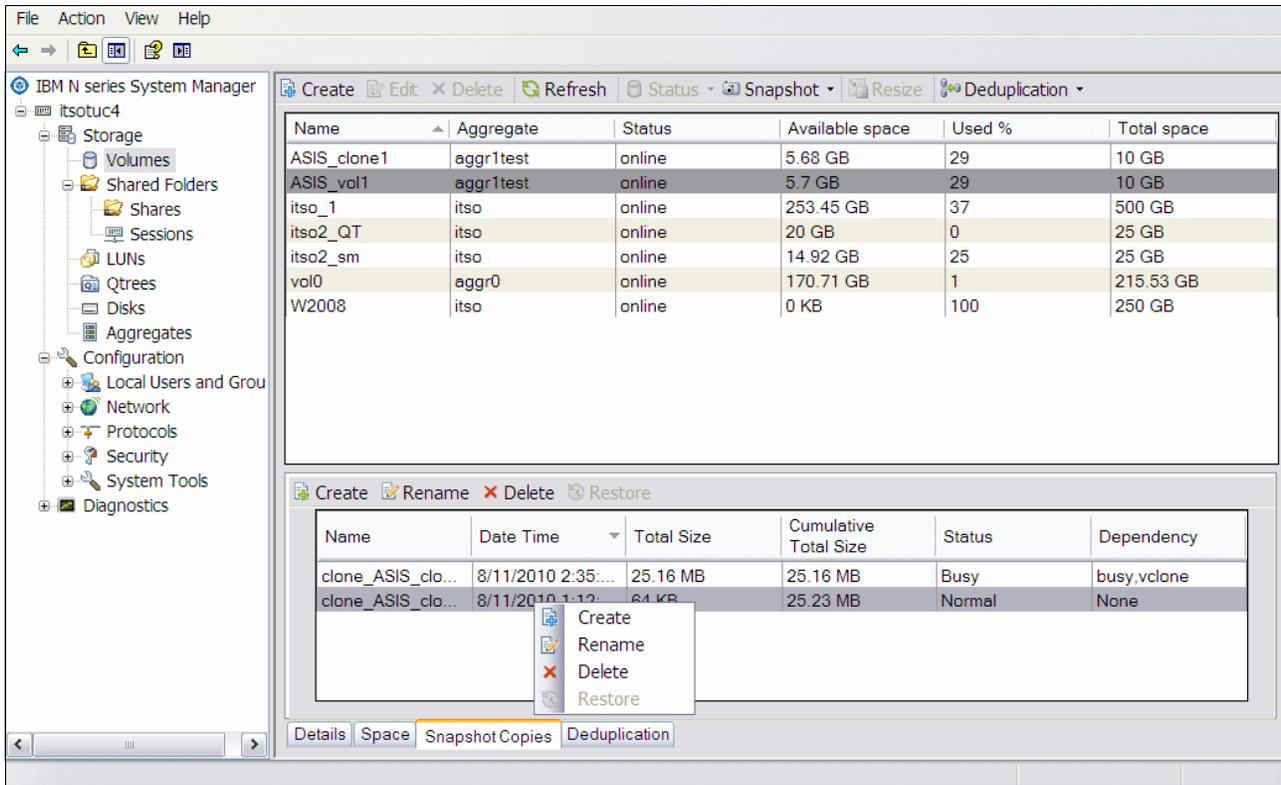

Figure 7-18 Snapshot list
- The ASIS\_vol1 has several related active snapshots as defined previously. One of these snapshots is the one needed to define its clone. It is possible to modify the snapshot list and delete some of the available snapshots by simply clicking the selected snapshot on the list and clicking **Delete**, as shown in Figure 7-18. A dialog box will open and prompt you to confirm the snapshot deletion.